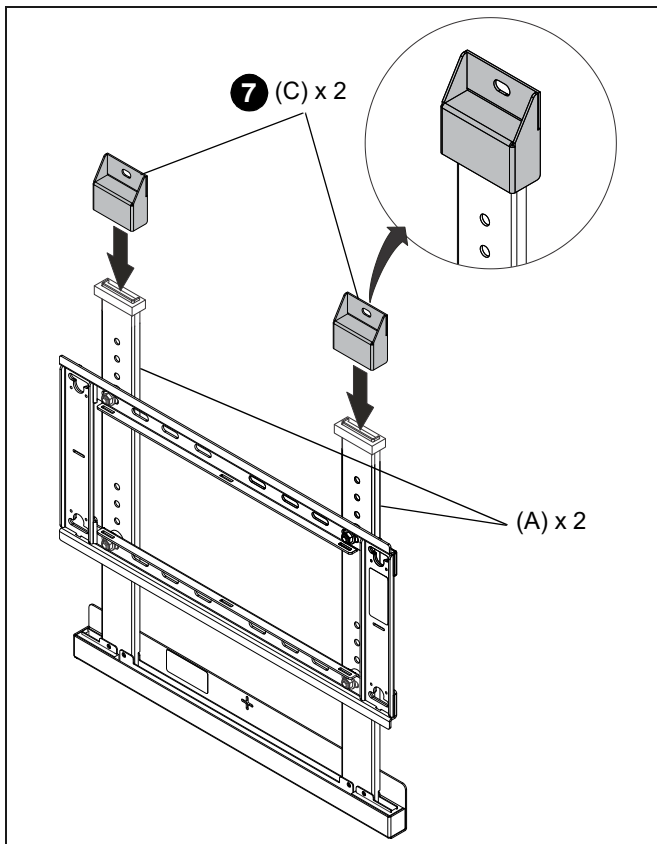

Figure 5
7. Slide two top caps (C) over the upper ends of the vertical brackets (A). (See Figure 5)
**NOTE:** Top caps (C) must be flush to the surface of the wall while seated against the vertical brackets (A).